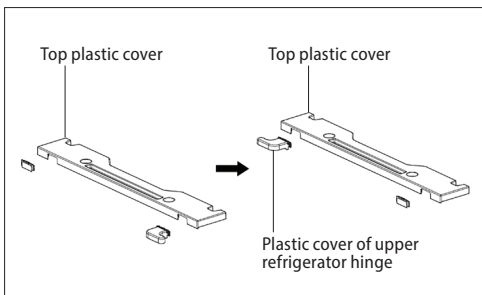

Fig. 7
15. Remove the plastic cover of the upper hinge from the top plastic cover (Fig. 7).
16. In the package with accessories, you can find the plastic cover of the refrigerator hinge, which is to be installed on the opposite side of the top plastic cover as shown in Fig. 7.